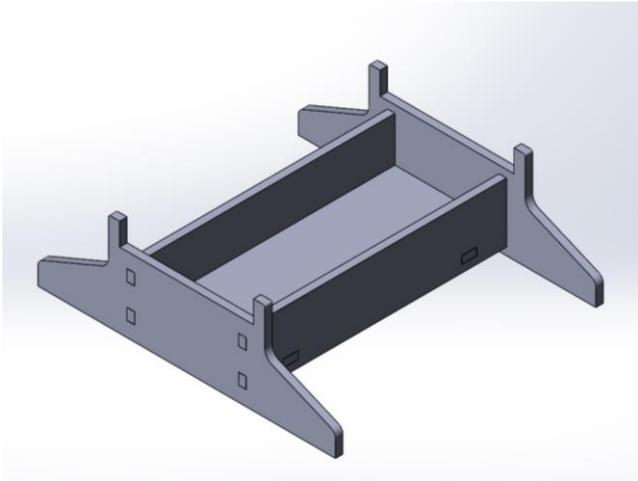

FIGURE 1
1. Thoroughly inspect the cradle prior to use. Look for any deformation or cracking in the welded areas. The cradles must be removed from service and repaired or replaced as necessary if defects or cracks are found (Figure 1).